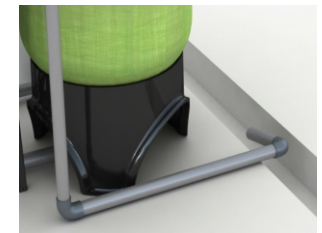

Figure 1-4
- If the valve belongs to time clock type (63515/73515), there are no step ②.
- ④ Install drain pipeline (If no special requirement, the standard DLFC is No.7703)
- e. Glue the drain outlet with UPVC (DN40). Put drain outlet pipe to sewer as showed in the Figure 1-4.